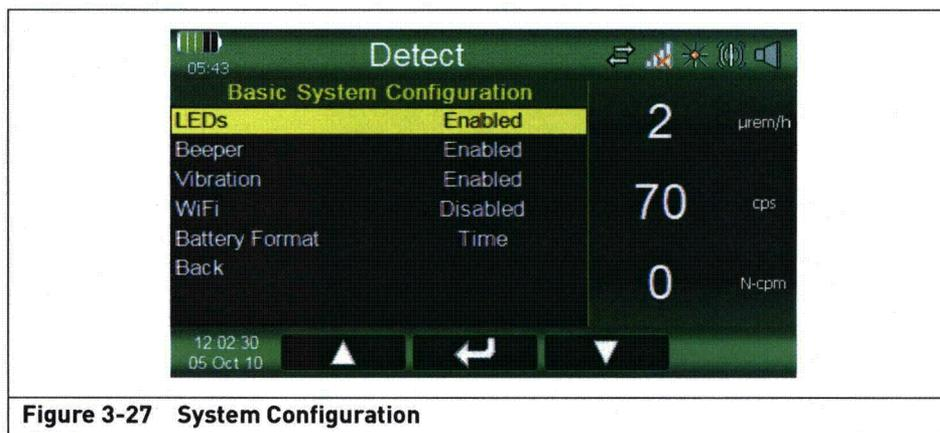

Figure 3-27 System Configuration
2. Use the Down arrow to select the option to be changed. See Figure 3-27.